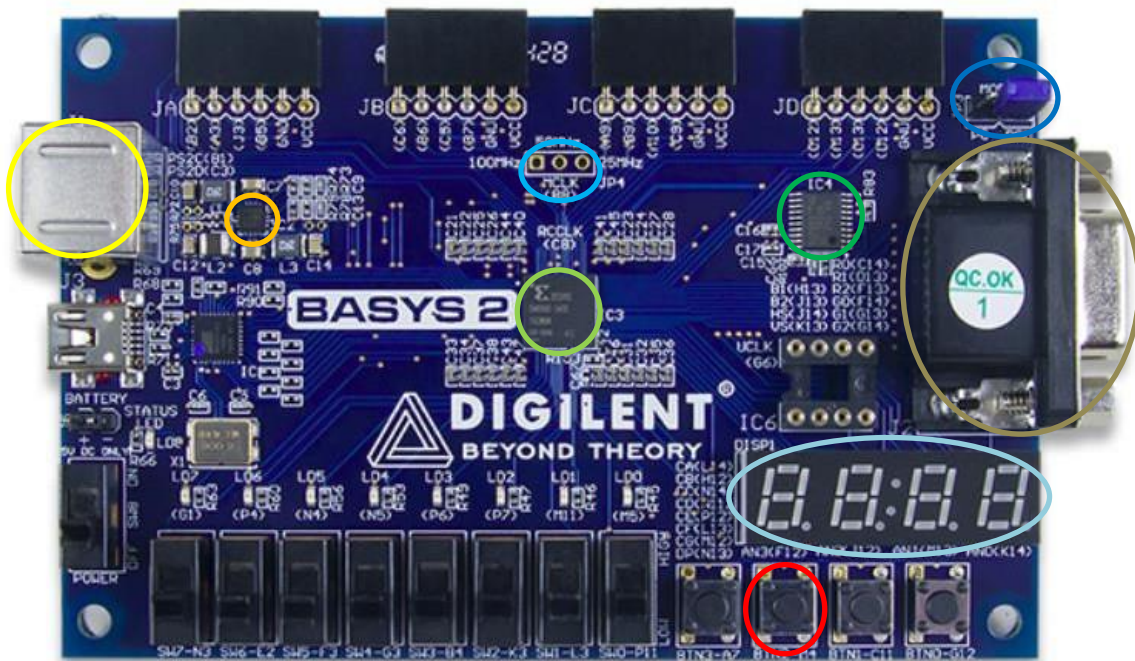

Figure 1 Basys2 board overview
- Obtain the **board schematic** and identify the following components by **circling and labeling** them on the photo below. Write the reference designator in the spaces following the components in Figure 1.